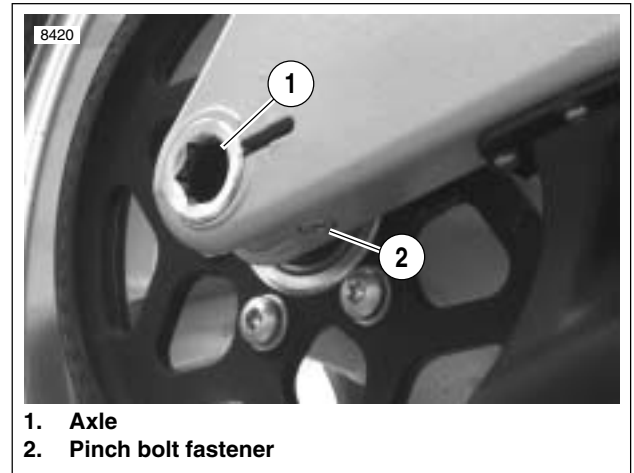

Figure 6-97. Rear Wheel Mounting, Right Side
13. See Figure 6-97. Tighten rear axle (1) to 48-52 ft-lbs (65-70 Nm).
14. Tighten rear axle pinch fastener (2) to 40-45 ft-lbs (54-61 Nm).